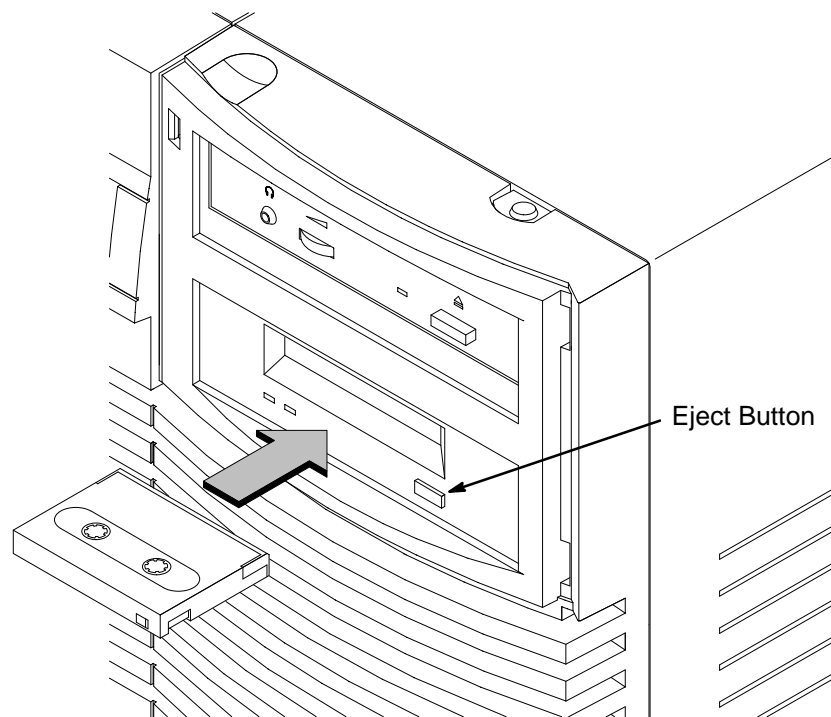

Figure 2-3. Loading a Data Cassette
- 1.** Insert the data cassette into the drive, as shown in Figure 2-3.
3. To remove the data cassette, press and release the eject button on the front of the drive, as shown in Figure 2-3. The Tape LED on the drive flashes on and off. Ten to twenty seconds later, the data cassette slides partway out of the drive. Remove the cassette from the drive.